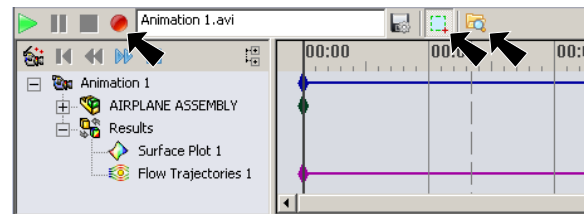

Fig. 37
Step 2. In the Animation control panel turn on **Capture Region** , Fig. 37.
Step 4. Click **Record** , Fig. 37.